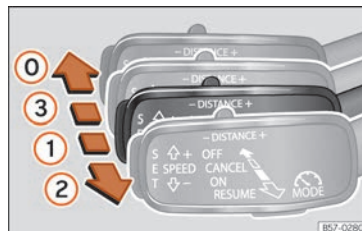
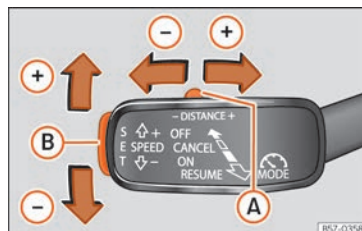

Fig. 236 On the left of the steering column: operating the ACC with the third lever.
Fig. 237 On the left of the steering column: operating the ACC with the third lever.
- To activate the ACC, move the third lever to position **ON** »» Fig. 236 ①. At this time, the ACC is not active and there is no programmed speed.
- Next, press button **SET** »» Fig. 237 ② or move the lever to position **RESUME** »» Fig. 236 ②. At this moment the ACC is ac-
- If you wish to increase speed by intervals of 1 km/h (0.6 mph), move the lever to position **RESUME** »» Fig. 236 ②, or to decrease it press button **SET** »» Fig. 237 ②.
- To increase or reduce the distance, press button  to the right or left »» Fig. 237.
- To disconnect the ACC move the lever to position **OFF** (fixed) »» Fig. 236 ①. An **ACC deactivated** message appears and the function is totally deactivated.